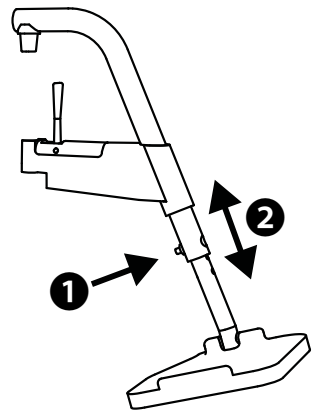

Fig.9
1. Loosen the screw connection on the back of the leg rest tube. (1, Fig. 9).
2. Set the desired height of the foot plate over the 9 drill holes (2, Fig. 9).